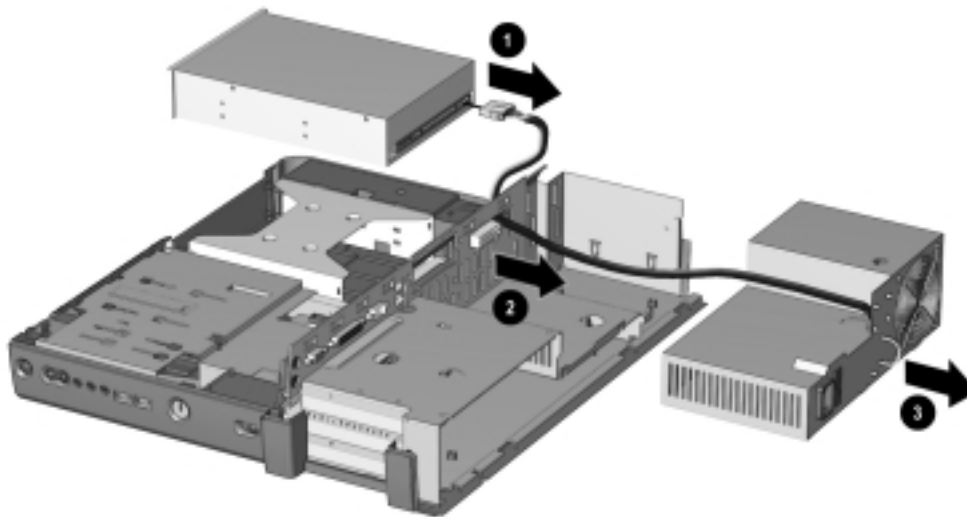

Figure 5-30. Removing the Power Supply
7. If a half-height device is installed in the half-height bay, disconnect the half height bay power supply cable from the half-height device ❶ (Figure 5-30).
9. Route the half-height bay power supply cable through the opening in the backplane ❷.
10. Remove the power supply from the base cover ❸.